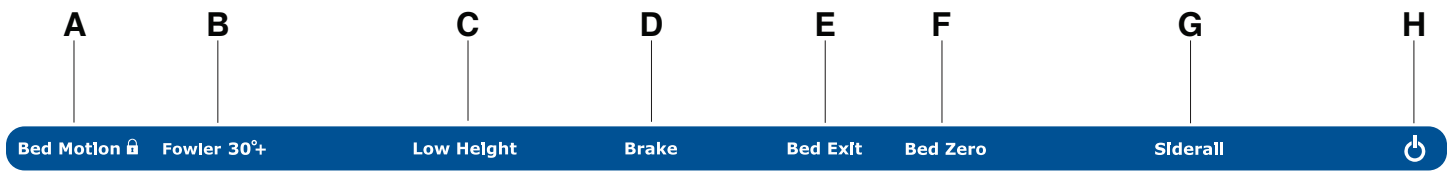

Figure 30 – Footboard LED indicators
Note - The **Chaperone** Bed Exit footboard LED indicator illuminates when you arm **Chaperone** Bed Exit (Figure 30).
Note - The **Chaperone** Bed Exit footboard LED indicator (E) illuminates when you arm **Chaperone** Bed Exit (Figure 30).
Note - The **Bed Zero** LED indicator (F) illuminates when you set the scale to zero (Figure 30).